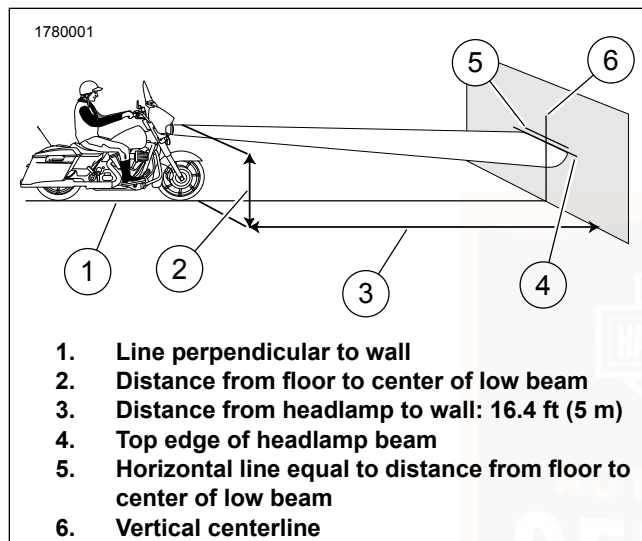

Figure 113. Headlamp Alignment
4. See Figure 113. Park the motorcycle on a line (1) perpendicular to the wall.
5. Position motorcycle so the front of the headlamp is 16.4 ft (5 m) (3) from wall.
6. Draw a vertical centerline (6) on the wall aligned with perpendicular line (1).
7. See Figure 113. With the motorcycle loaded, point the front wheel straight forward at wall. Measure the distance (2) from the floor to the optical center of the low beam bulb (dimple in lens).
8. Draw a horizontal line (5) through the vertical line on the wall at the same distance (2) from the floor as the low beam centerline. Draw another horizontal line (4) 0.98 in (2.5 cm) below horizontal line (5).